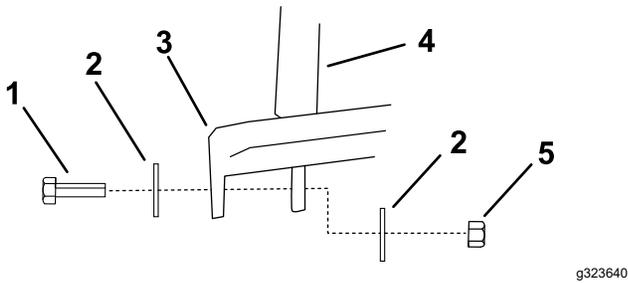

Figure 6
2. Install the 2 side frame tubes to the rear frame tube (Figure 5 and Figure 6).